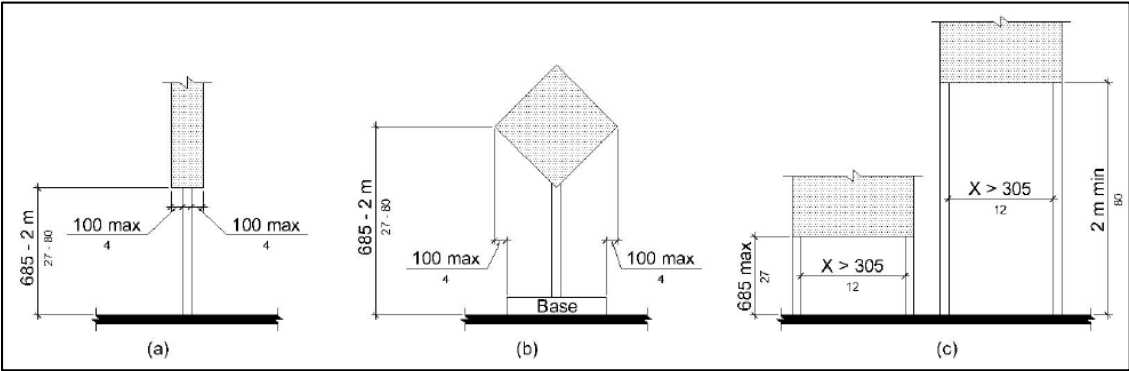

Figure 24 - Post-mounted Object Overhang Allowable Dimensions
- Post-mounted object overhangs do not exceed allowable dimensions in **Figure 24**